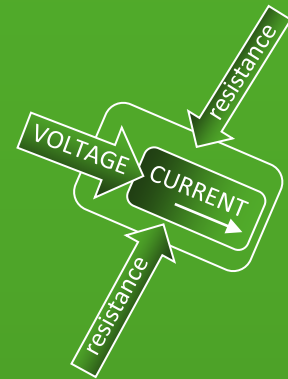

Figure A6.1 Voltage, current, and resistance within a conductor (wire).
**Resistance** is an obstacle to the flow of current - how much it can resist **charge** (see *Figure A6.1* and *A6.2*). Returning to our water pipe analogy, resistance is comparable to the diameter of the piping. A high resistance is akin to a narrow pipe through which very little water can travel at one time with a certain pressure. A low resistance is akin to a wide pipe through which a lot of water can travel at one time with that same pressure.